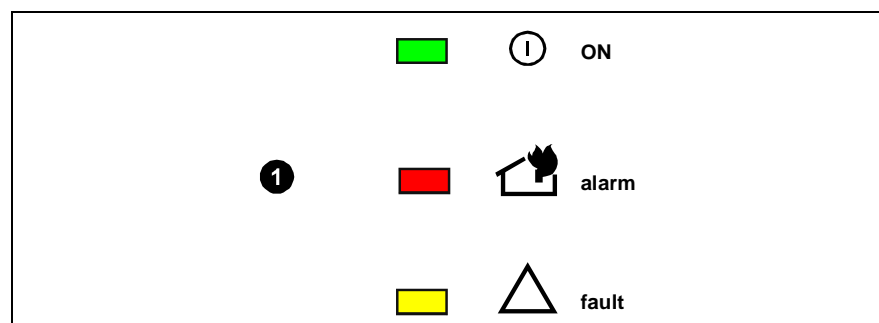

Fig. 2.5: Displays of Honeywell ALL-SPEC
| ① | displays (refer to Fig. 2.5) | |